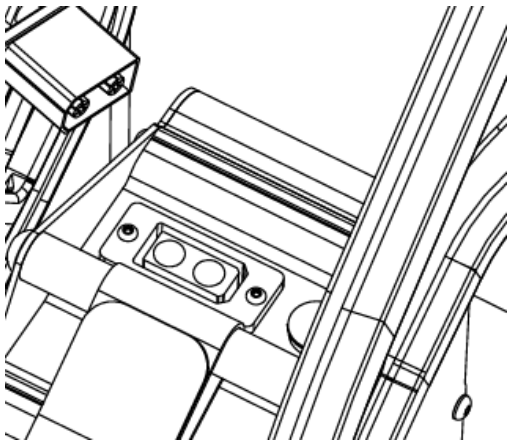

Fig. 10
- 1- Check that the connection between the battery and the motorcycle is correct (Fig. 10).
- 3- Disconnect the battery as indicated on the previous page (Figure 10) and replace the battery connector cover.